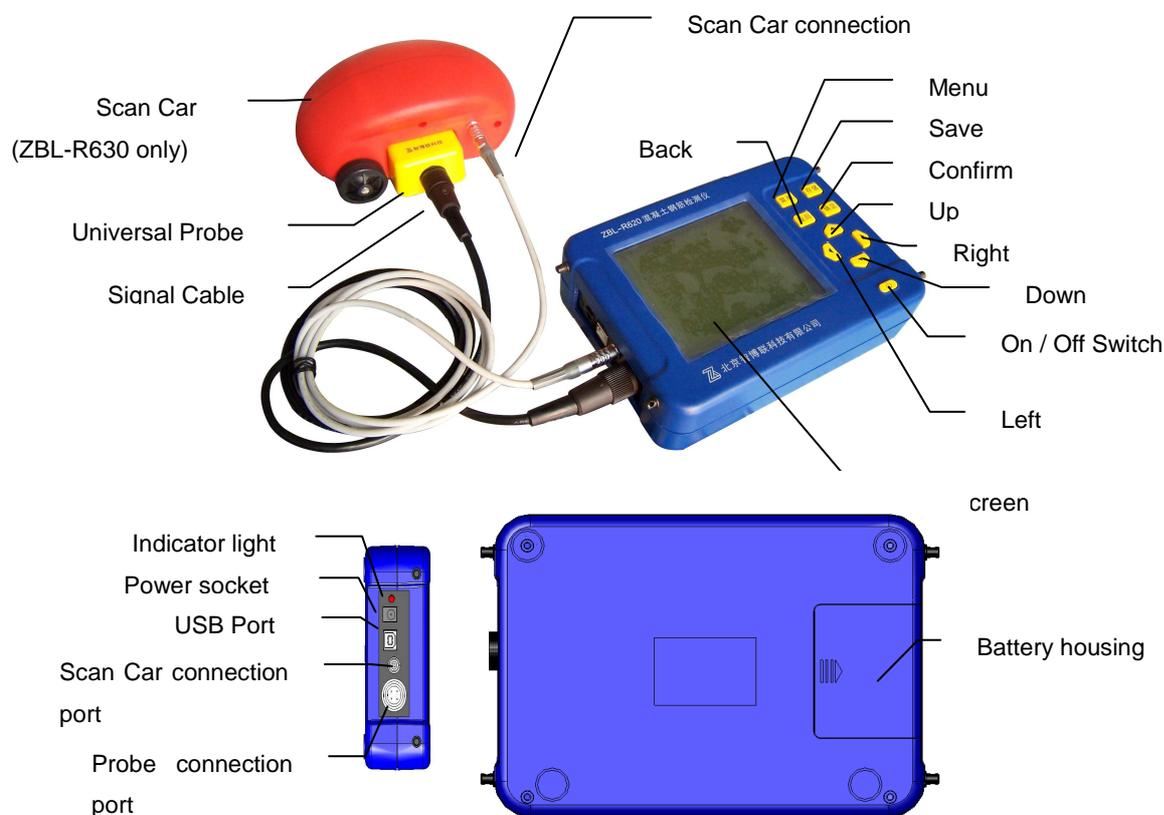

Fig. 1.1 Components of ZBL-R620/R630 Rebar Locator
► ZBL-R620/R630 Rebar Locator standard accessories (Fig. 1.1)